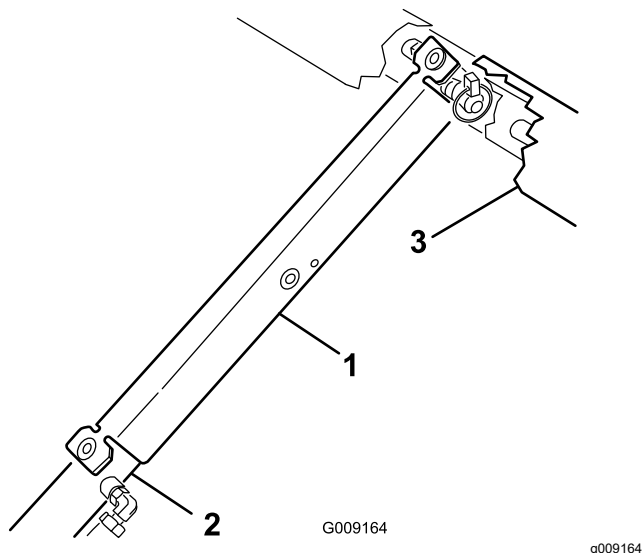

Figure 2
3. Push the bed support onto the cylinder rod, and ensure that the support-end tabs rest on the end of the cylinder barrel and cylinder-rod end (Figure 2).